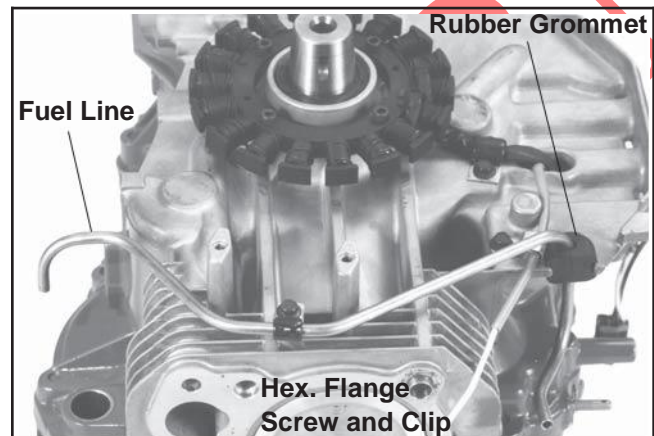

Figure 11-27. Installing Fuel Line.
2. Install the fuel line, clamp and hex. flange screw. Make sure the grommet is inserted in the notch in the crankcase. See Figure 11-27.*